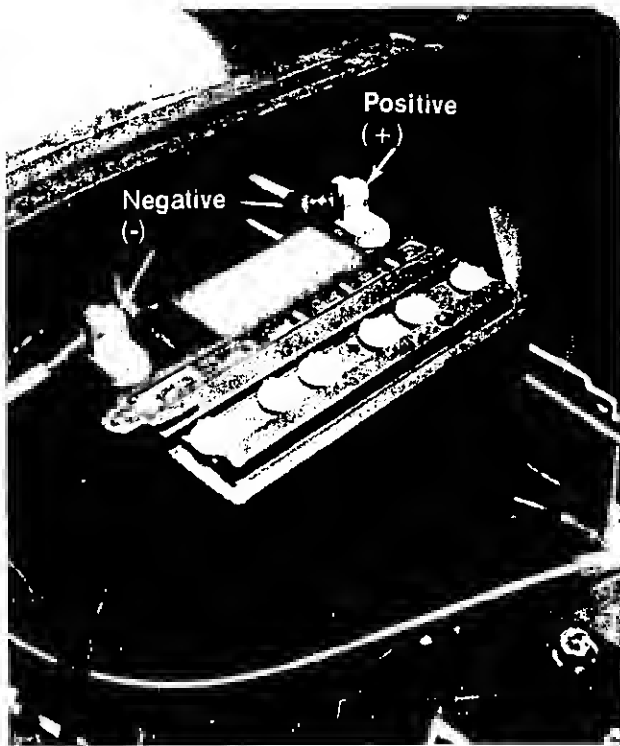

FIGURE 1.
- Place the battery in the battery case with the terminals to the rear. (See figure 1.)